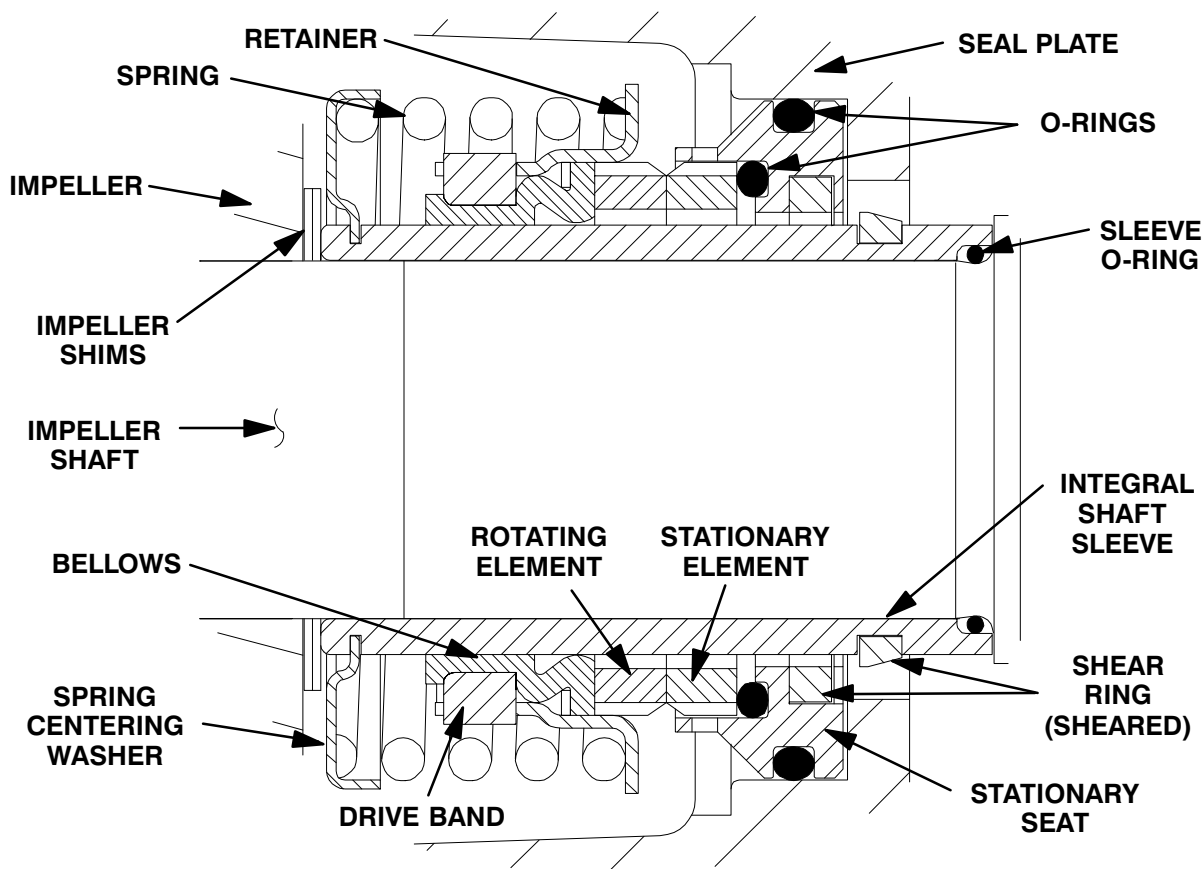

Figure 8. 46513-151 Cartridge Seal Assembly
To ease installation of the seal, lubricate the shaft sleeve O-ring (14) and the external stationary seat O-ring with a very **small** amount of light lubricating oil. See Figure 8 for seal part identification.